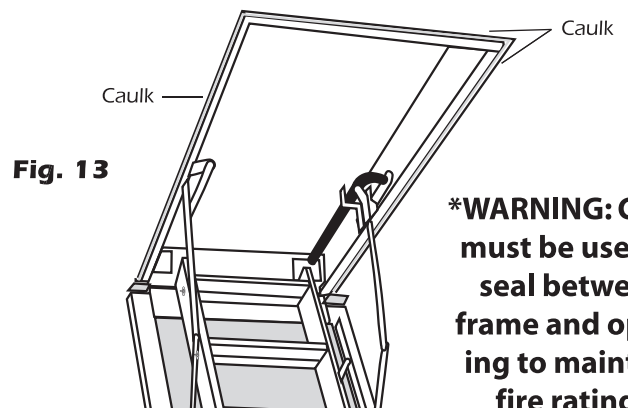

Fig. 13
Step 14- Walk up the stairs; and using the remaining caulk, seal the opening between the stairway frame and the rough opening. (See Fig. 13) Gap should not exceed 1/4".